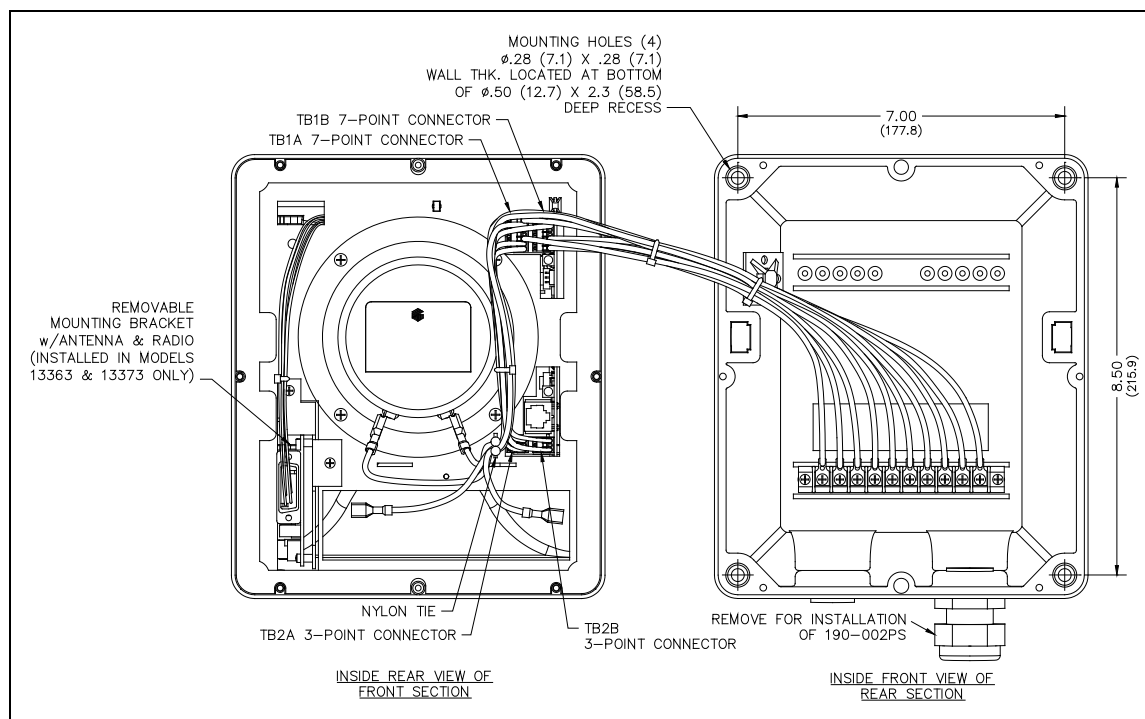
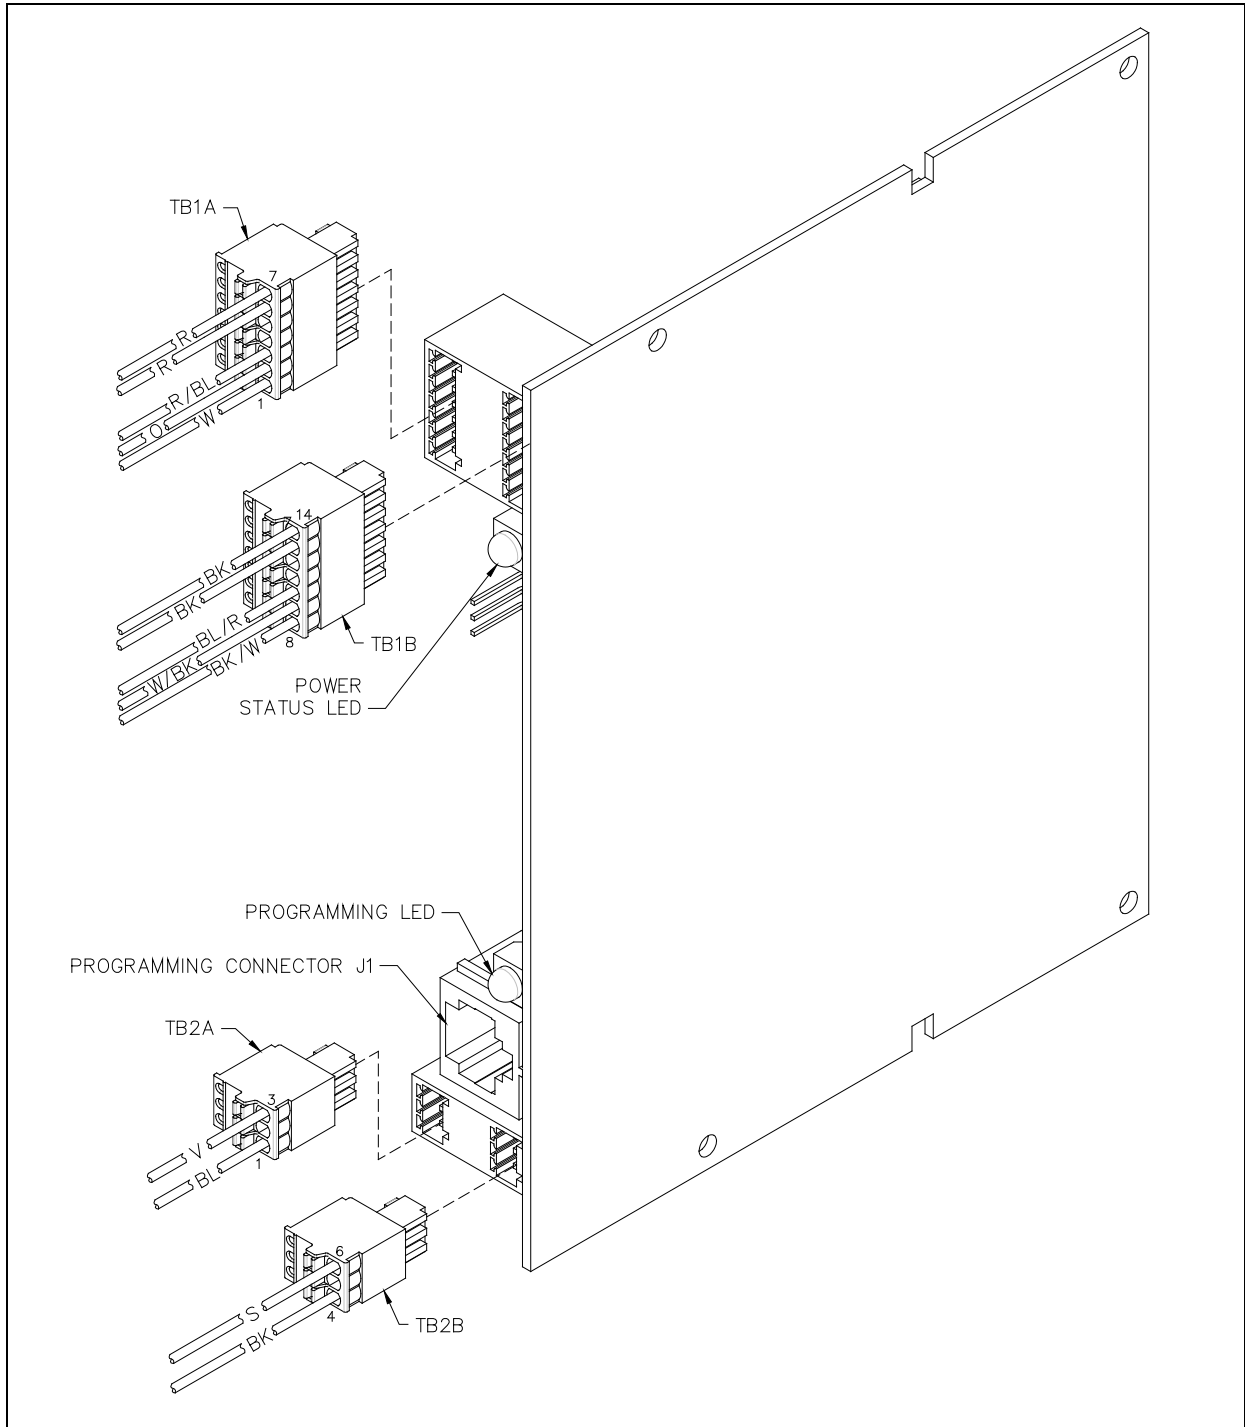

Figure 7. Mounting Detail
Figure 19. TB1 (A & B) and TB2 (A & B) Connector Orientation Diagram
2. After opening the Addressable Amplified Speaker, untwist the nylon tie used for wire management. Unplug the quick-connect fastons from the speaker and unplug the dual 7-point connectors (TB1) and dual 3-point connectors (TB2) from the PCBA. The front section can now be completely separated from the rear section. See Figure 7.
3. Mount the rear section to any flat surface using 1/4-inch diameter customer-provided screws in each of the four 0.280-inch mounting holes in the corners of the rear section. Refer to Figure 7 for mounting hole pattern dimensions. A Model 231-001 Pole Mounting Kit can also be used for pole or surface mounting. Two customer-provided mounting screws are required to surface mount this kit. The kit includes four mounting screws needed to secure the speaker to the kit's bracket.
After routing all necessary cable wires into the Addressable Amplified Speaker, make required wire terminations at TB101, TB1, and/or TB2 (TB1 and TB2 are located on the rear of the front section, next to the speaker. Refer to Figure 7 and Figure 19. When connecting to TB101 it is recommended that spade or ring lug connectors are used.
Refer to Figure 7 or Figure 19 to locate TB1, the dual, 7-point connector. The “A” portion of the connector (to the left while facing the speaker’s front section from the rear) includes the speaker wire connections. This connector numbering begins with position 1 at the bottom and ends with position 7 at the top.
When wire terminations have been completed, reconnect the dual, 7-point and dual 3-point connectors to the PCBA and route the wires through both nylon ties. Refer to Figure 19 for connector orientation. Retwist the nylon ties to secure the wires. Refer to Figure 7 for wire routing. Assemble the speaker sections and tighten front panel screws to 16 to 20 in-lbs. of torque.
The pin-out for the dual, 7-point wiring connector (14 points total) on the front section of the speaker assembly is described below. The numbering orientation is shown in Figure 19.
The pin-out for the dual, 3-point wiring connector (6 points total) on the front section of the speaker assembly is described below. The numbering orientation is shown in Figure 19.
Refer to Figure 19 for TB1 and TB2 connections and orientation.